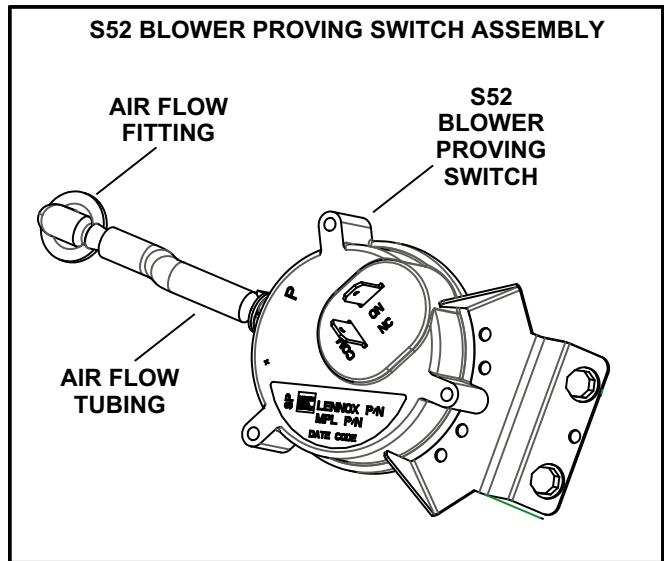

FIGURE 1
- 2- Cut air flow tubing to 2” for 036-072 and 156-300(S) units. Use length provided for 092-150 units.
- 3- Assemble air flow switch, tubing, and fitting as shown in figure 1.